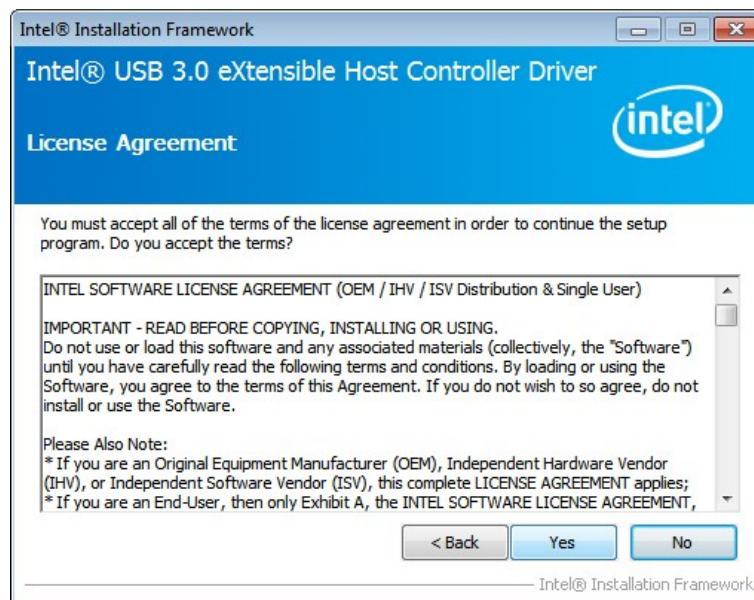

Figure 6-29: USB 3.0 Driver License Agreement
Step 6: The license agreement in **Figure 6-29** appears.